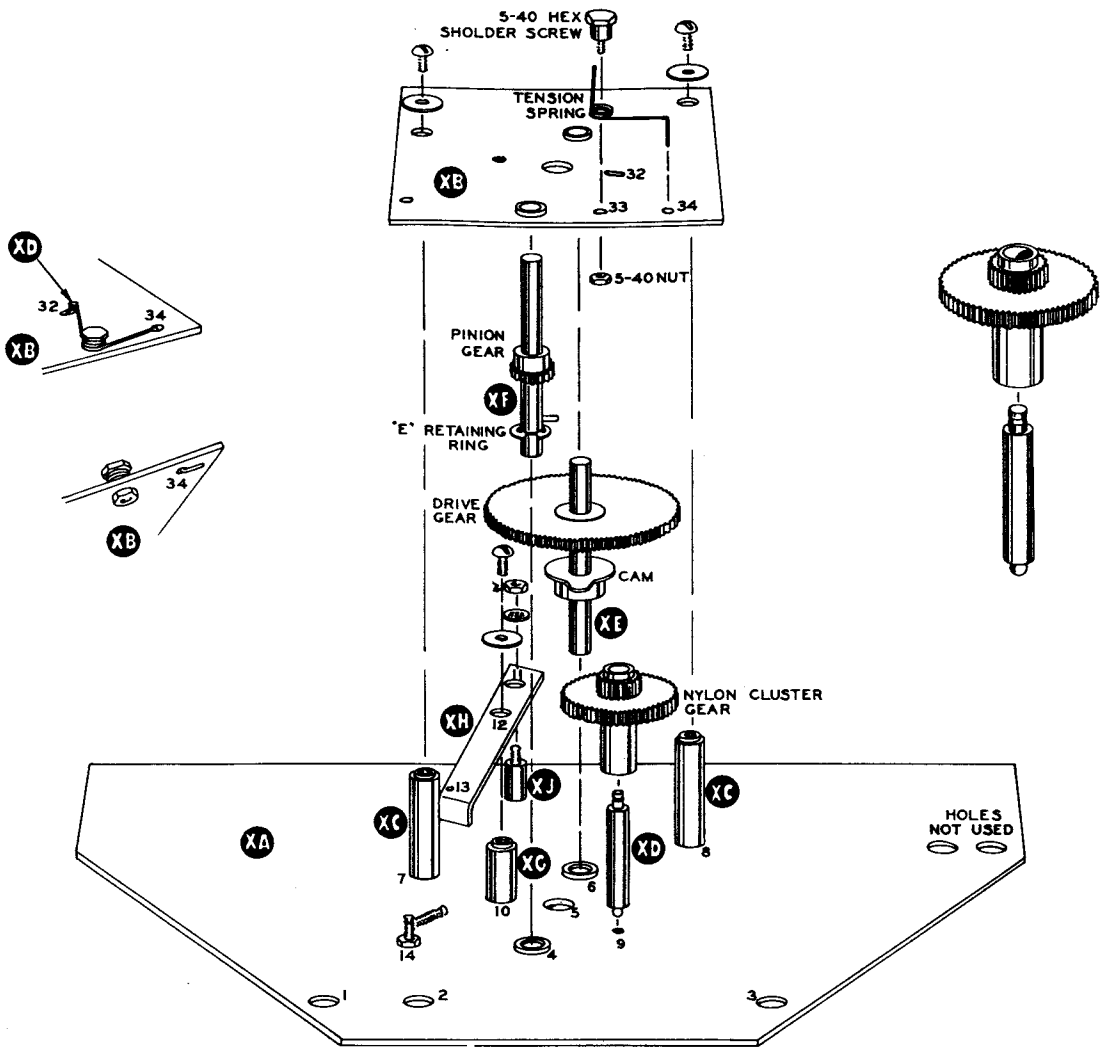

Figure 8
- (✓) Refer carefully to Figures 8 and 9. Locate the parts illustrated and note their designations. Parts will be given two letter designations (XA, XB, etc.), and holes will be numbered. The gear train will be assembled first, then the dial drum. The figures presented here will be worth more than all the words that could be used to describe this assembly process. A complete understanding of the figures before starting will result in a rather simple assembly job.
- (✓) Place the backplate XA on the top of an open cardboard box with the flanged side of the three bronze bearings up and the narrow side toward you, as in Figure 8. Placing the unit on a box allows it to be flat and permits the shaft to be inserted through the bearings and supports them in position. From time to time it will be necessary to pick up the backplate for assembly purposes but returning it to the "reference" position will make the assembly instructions clearer.
- (✓) Referring to the detail in Figure 8, insert the cluster gear pivot shaft into the nylon cluster gear as shown, the small rounded end of the shaft at the end of the cluster gear away from the gears.
- (✓) Slide the cluster gear and shaft into place as shown in Figure 8, so the small rounded end of the shaft falls into hole 9 on the back plate with the small nylon gear meshing with the large drive gear and the larger nylon gear meshing with the small pinion gear.